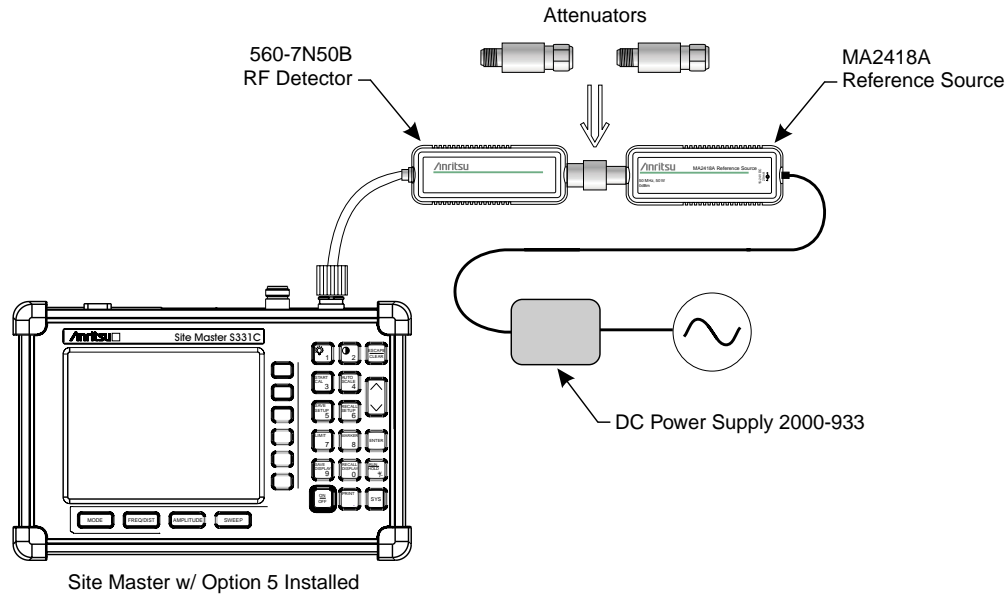

Figure 2. Power Monitor Verification
1. Connect the DC power supply to the **MA2418A** Reference Source. (Refer to Figure 2, page 4.)
10. Connect the output of the **MA2418A** Reference Source to the two attenuators so as to add **40 dB** of attenuation (Figure 2).